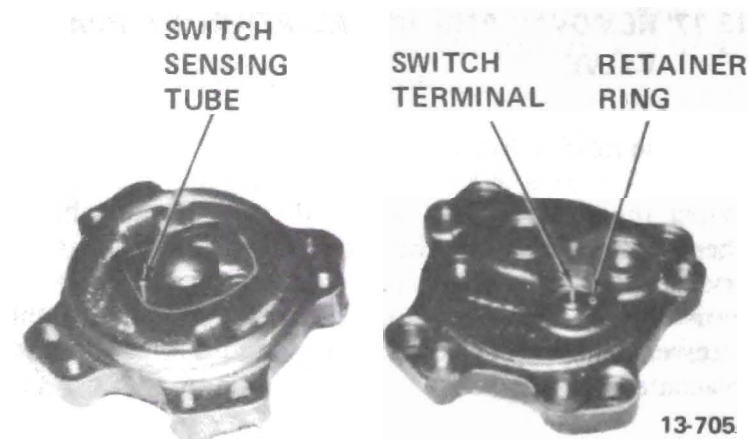

Figure 13-22 Superheat Shutoff Switch Installed in Rear Head
2. After the system is discharged, remove the superheat switch retainer ring, Figure 13-22, using Tool J-5403.